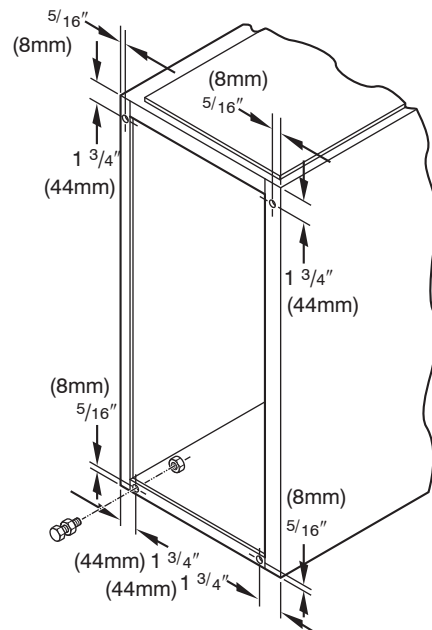

Fig. 10 - Leveling Legs
In upflow position with side return inlet(s), leveling legs may be used. (See Fig. 10.) Install field-supplied, 5/16 X 1-1/2 in. (max) corrosion-resistant machine bolts, washers and nuts.
1. Position furnace on its back. Locate and drill a hole in each bottom corner of furnace. (See Fig. 10.)